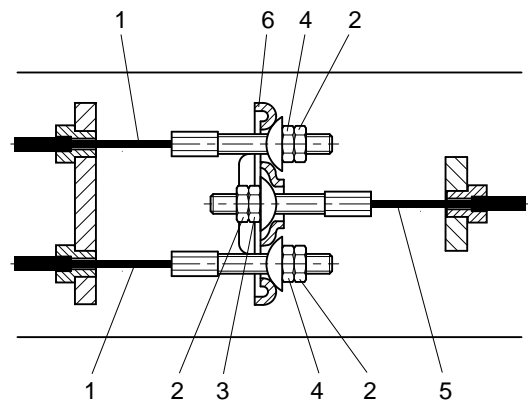
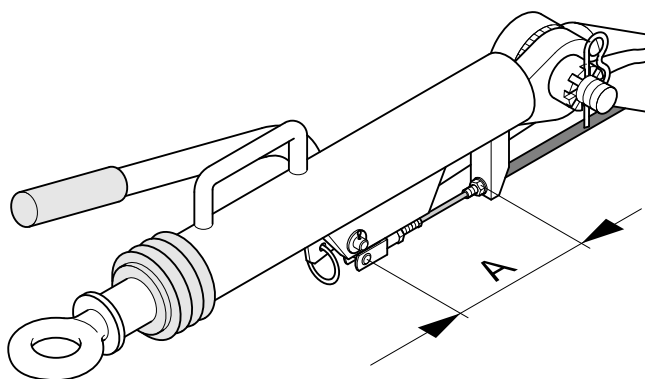

Fig. 5.6 Brake cable arrangement
Fig. 5.7 Detail of brake system
2. Disconnect the brake cables (Fig. 5.6, 1).
1. Reconnect the brake cables (Fig. 5.6).
2. With the towing eye pulled out and the hand brake lever (Fig. 5.7) in the downward position, turn adjusting nut and brake cable nuts (Fig. 5.6, 4) clockwise until there is no slack in the brake mechanism.
The equalizer (Fig. 5.6, 6) must remain perpendicular to main brake cable (Fig. 5.6, 5).
3. Apply the hand brake lever several times and repeat the adjustment. Tighten the nuts with their lock nuts (Fig. 5.6, 2). Remove the jack and the blocks.
4. Measure dimension "A" (Fig. 5.7). The dimension "A" should be 197 mm (+/- 3 mm); if not, the brake mechanism should be readjusted.